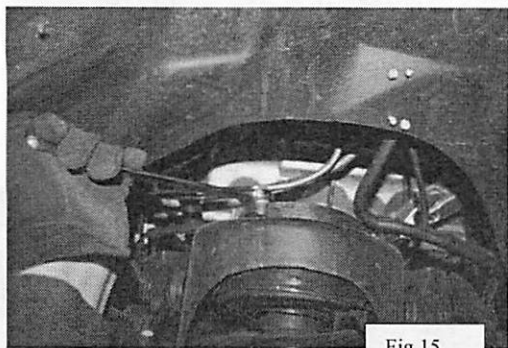

Fig 15
8. With the plates marked remove the three nuts that are holding the strut in place. With these removed you will now be able to remove the strut. -Fig 15